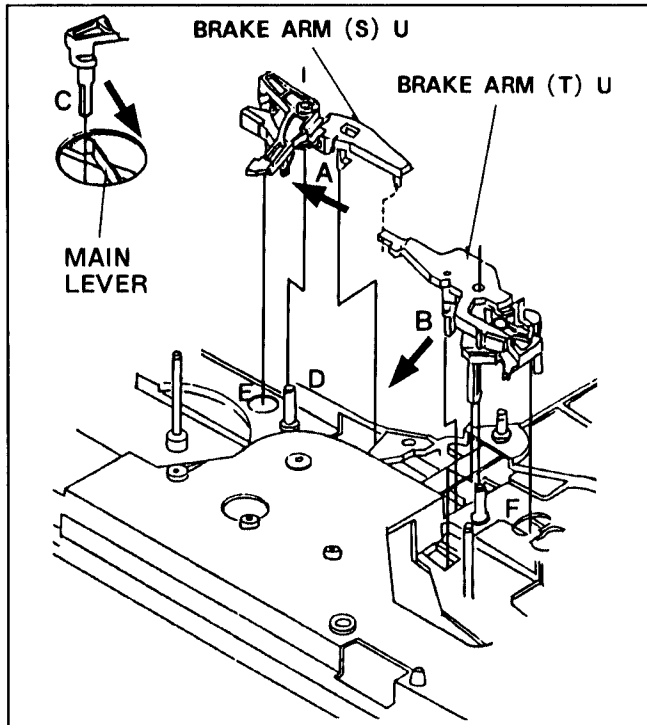

Fig.M9
1. Unlock the locking tab (A) to direction of arrow mark and lift up the Supply Brake Arm Unit.
2. Unlock the locking tab (B) and lift up the Take-up Brake Arm Unit.
However the boss (C) of the Supply Brake Arm Unit insert to hole (E) of mechanical chassis while pushing the Main Lever to direction of arrow mark as shown in Fig.M9. (expanded view)